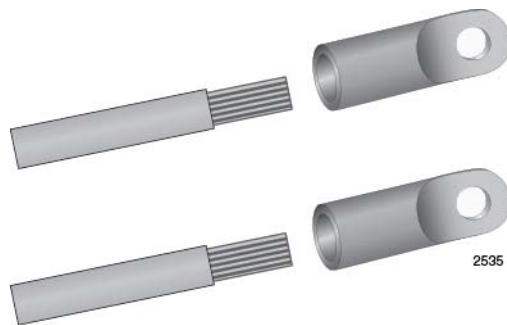

Figure 117. Attaching the Power Wires to the Straight Terminal Lugs
2. Insert the power wires into the terminals included with the power supply and use a crimping tool to secure the wires to the terminals. See Figure 117.